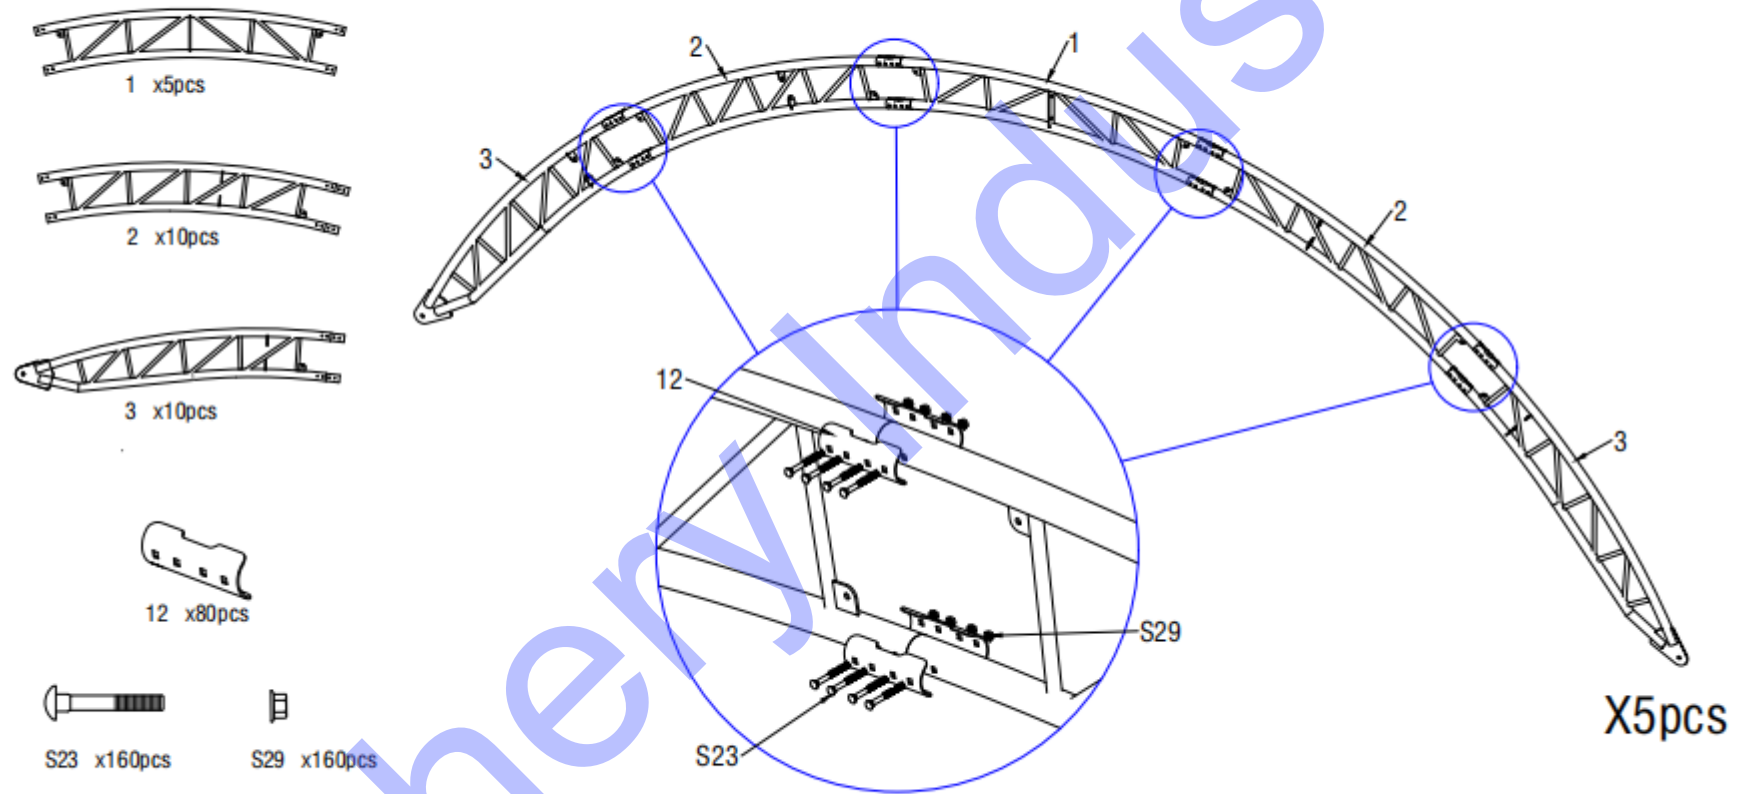

Figure 2
2.1 As Figure 2 shown to find one Middle Bent Tube, Lower Bent Tube and assemble these arches with Carriage bolt M8x80mm(Part no.S23) and Clamping Piece(Part no.12) to make the first arch group.